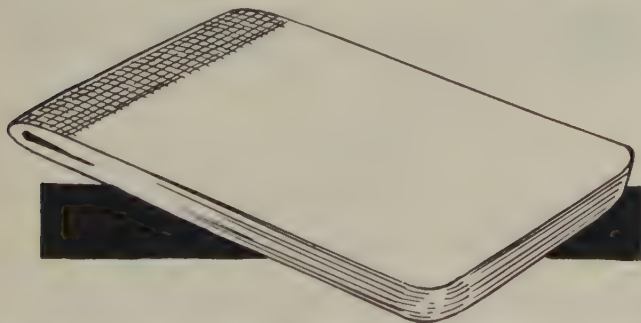

FIG. 232—BOOK STITCHED, TRIMMED AND CORNERS ROUNDED
12. Placing a piece of waste board on either side of book, trim it to $4\frac{1}{2}$ " wide by $6\frac{1}{4}$ " long and round corner the two open edges. (Fig. 232.)